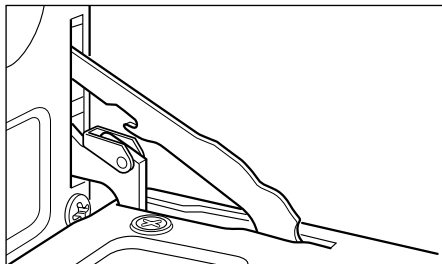
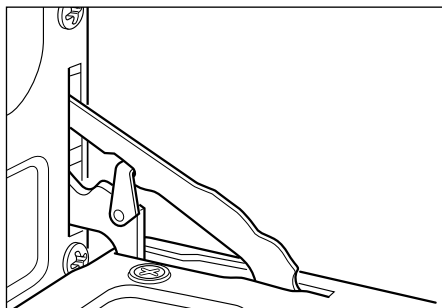

Fig.28a
Fig.28b
- Hook the swivel retainers of the right-hand and left-hand hinges (Fig. 28a) onto the metal bar above them (Fig. 28b).